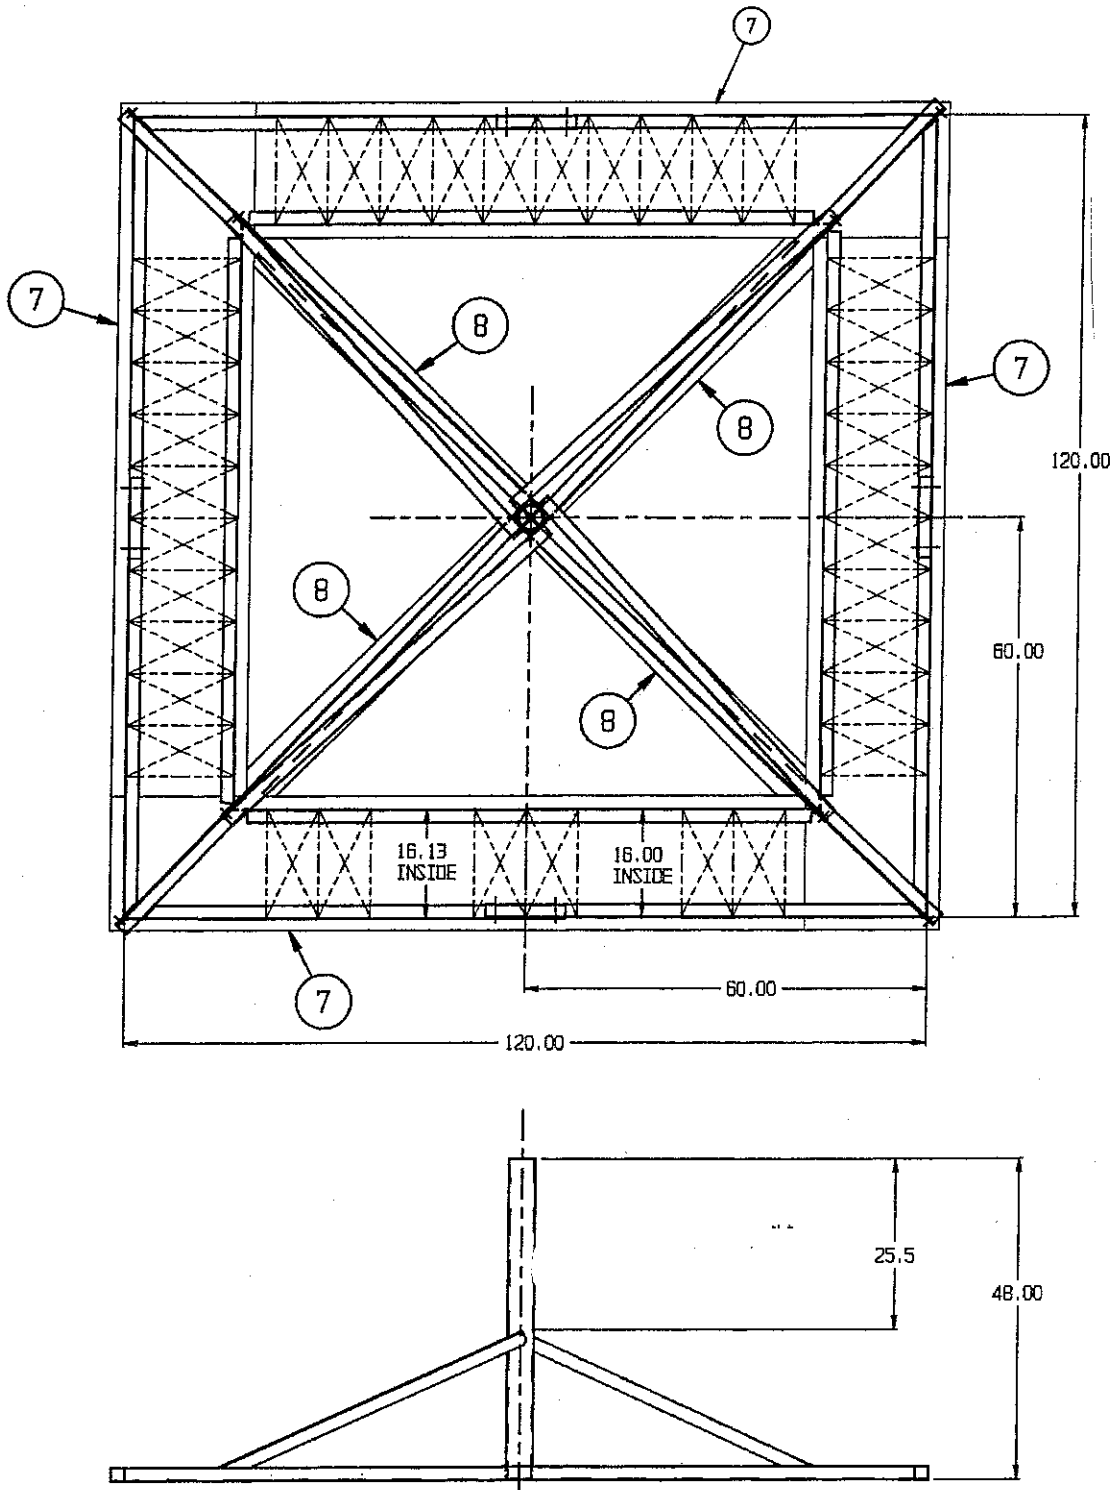

Figure 1
- STEP 2: Place rubber pads (item 6) on cleared area to form a square with (4) small pads (item 7) placed diagonally across center. (See Figure 1)